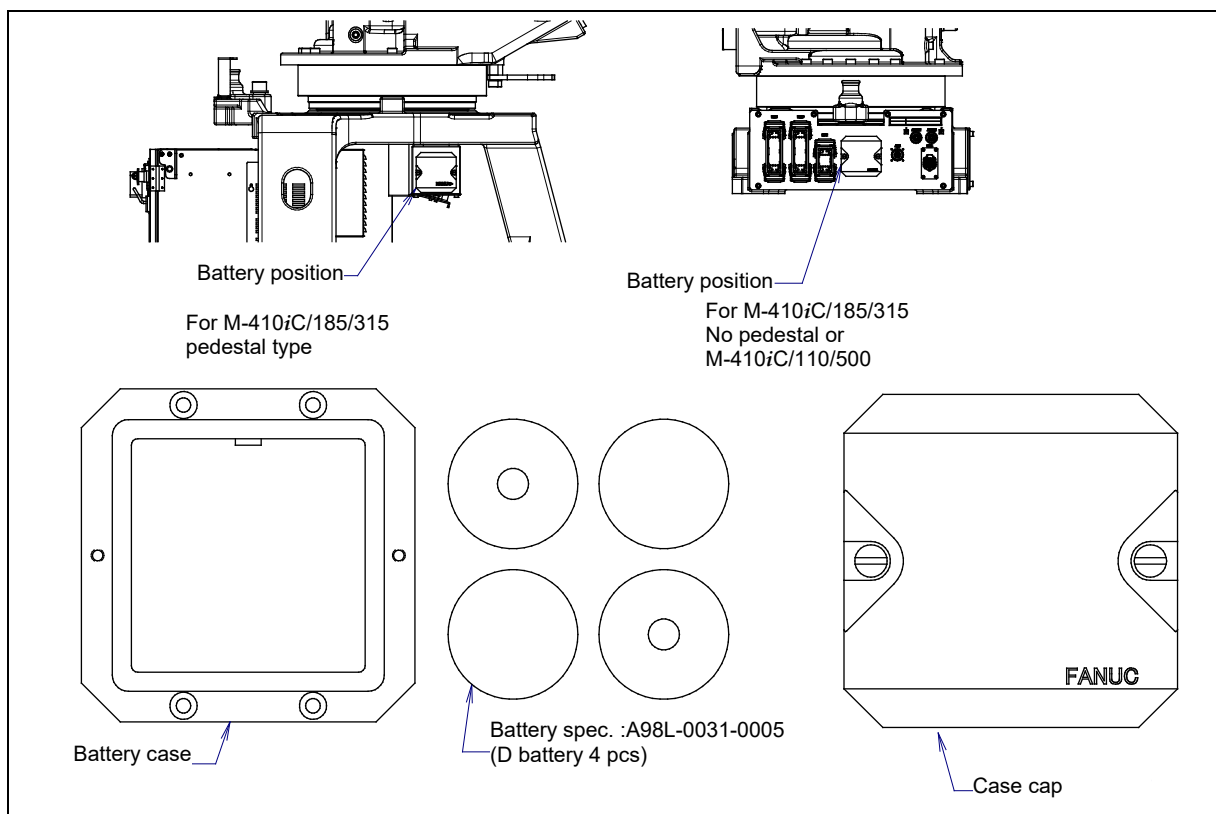

Fig.7.3.2 (a) Replacing batteries
- 2 Remove the battery case cap. (Fig. 7.3.2 (a))